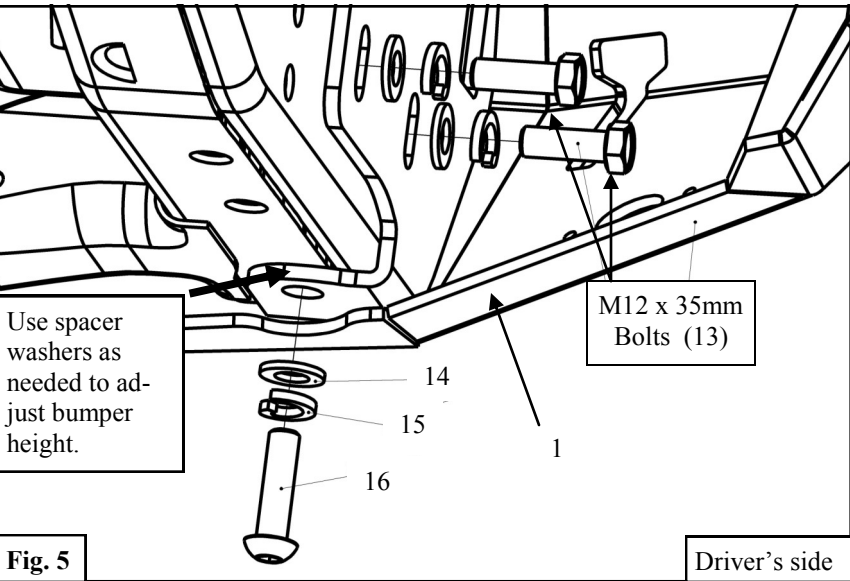

Fig. 5
- Install the rear bumper assembly (1) with the supplied M12 hardware according to **Figure 5**. *Note: Spacer washers can be used as needed to fill the gap between the bottom of the frame and the rear bumper. This allows vertical adjustment of the bumper.*